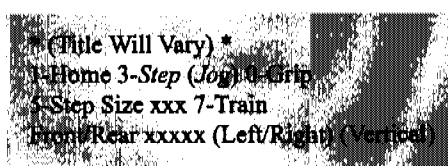

Figure 4.30. Coordinate Settings menu
When choosing a manual calibration routine from the Calibration Setup menu, the screen displays a new Coordinate Settings menu of the general format shown below (Figure 4.30). The title and other minor features differ to be appropriate for the task. The menu allows the operator to adjust positions along one axis at a time. The axis currently addressed appears on the last (fourth) line with the numeric step value of the current position. The second and third menu lines list the numeric commands for moving the arm or gripper along that axis.
The robotic arm moves and a version of the Coordinate Settings menu as described in "Manual Calibration Coordinate Settings Menu Items" on page 63 now displays (Figure 4.30).
3. Press [Enter]. The arm retrieves the vial, goes to the water probe cup, and a version of the Coordinate Settings menu displays (Figure 4.30), as described in "Manual Calibration Coordinate Settings Menu Items" on page 63 in this chapter.
- Press [Enter]. The arm retrieves the vial and goes to the knockoff plate area. A version of the Coordinate Settings menu displays (Figure 4.30), as described in "Manual Calibration Coordinate Settings Menu Items" on page 63 in this chapter.
3. Press [Enter]. The arm retrieves the vial and goes to the equilibrium block plate area. A version of the Coordinate Settings menu displays (Figure 4.30), as described in "Manual Calibration Coordinate Settings Menu Items" on page 63 in this chapter.
3. Press [Enter]. The arm retrieves the vial and goes to the standard vial area. A version of the Coordinate Settings menu displays (Figure 4.30), as described in "Manual Calibration Coordinate Settings Menu Items" on page 63 in this chapter.